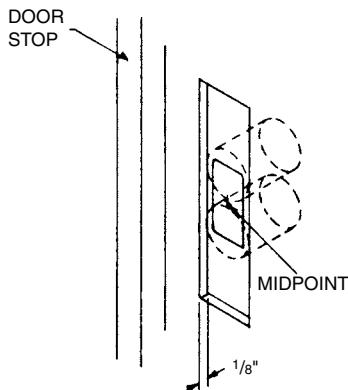

Figure 13.50 Ensure the midpoint is centered in the middle of the strike plate hole. (M.A.G. Engineering and Mfg., Inc.)
4. Drill two 1-inch diameter holes $1\frac{1}{8}$ inches deep, one $\frac{5}{8}$ inch above and one $\frac{5}{8}$ inch below the center mark (Fig. 13.50).